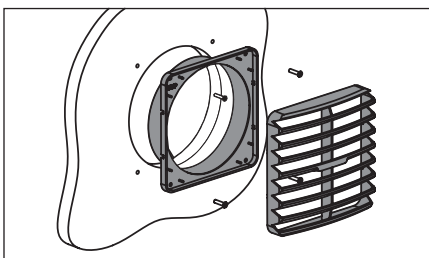

Fig. 20
3. Fix Grille base with four 6 G screws and snap fit the Grille louvres over the Grille base as shown in Fig. 20.